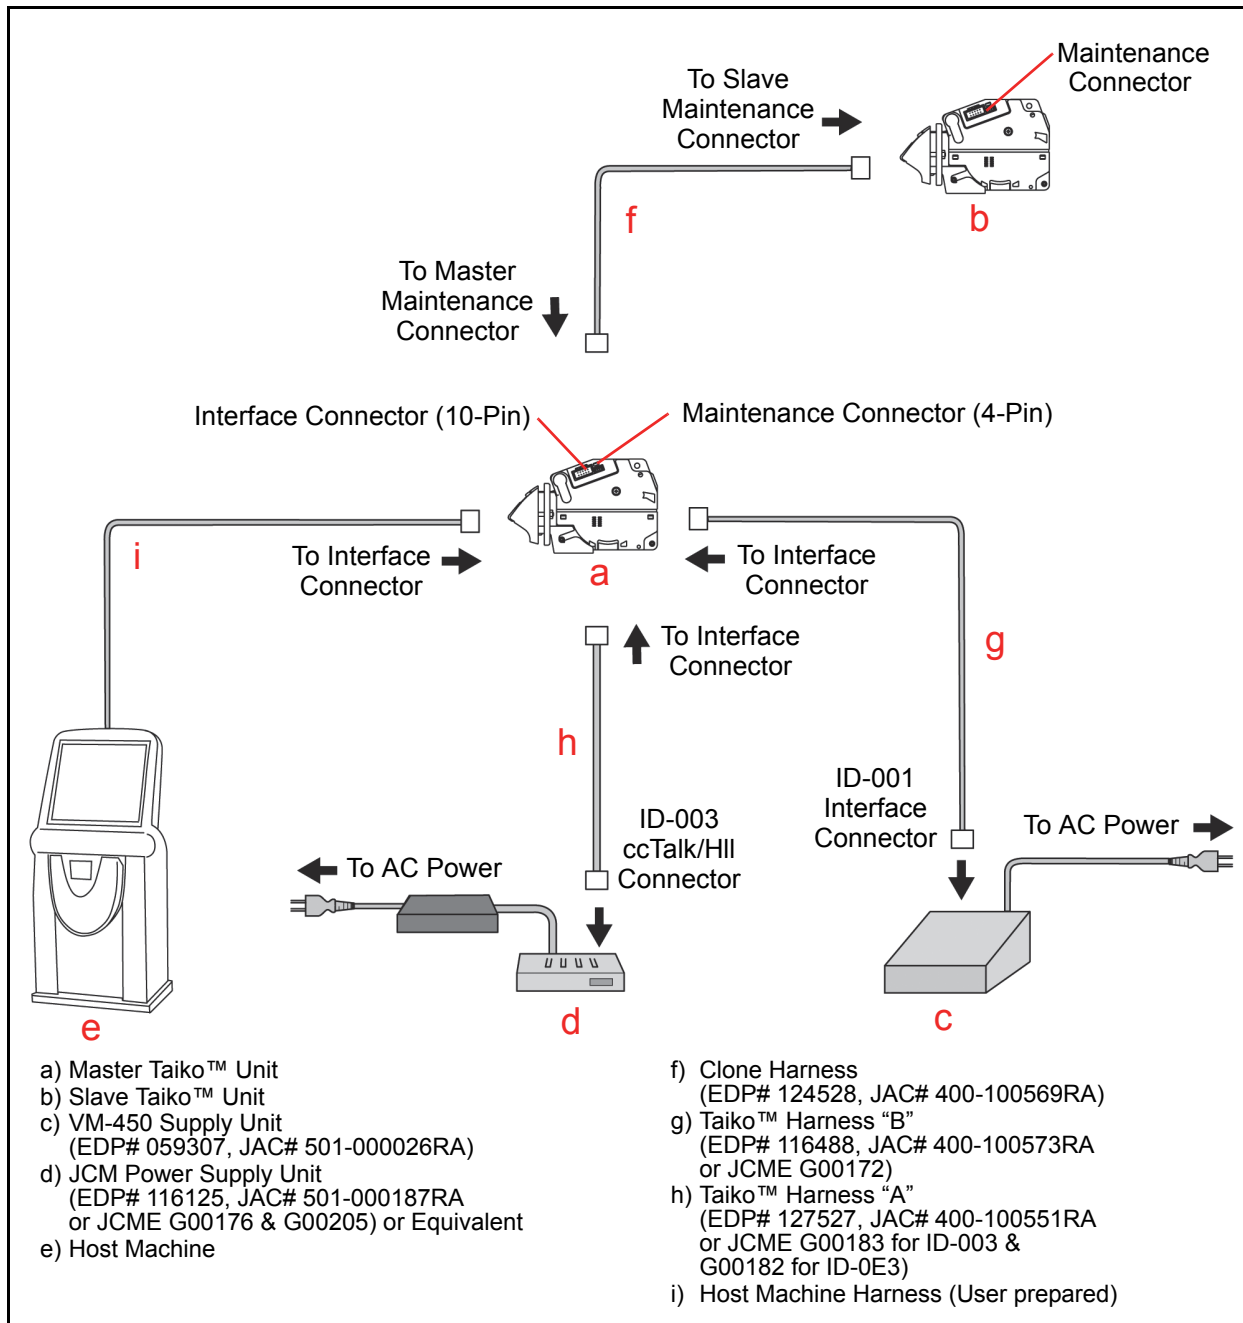

Figure 6-10 Taiko Clone Software Tool Connection Configuration
1. Connect the Master Taiko™ Unit, the Slave Taiko™ Unit, the Power Supply Unit and the Harnesses as illustrated in Figure 6-10.